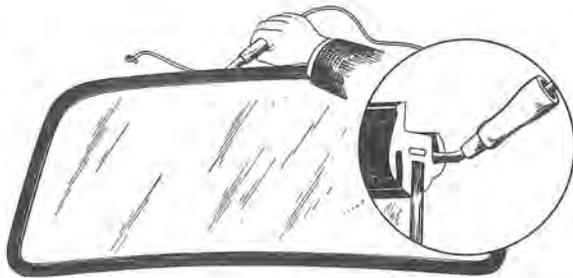

Fig. 8-26. Placing cord in rubber strip
2. Fit a cord (preferably of terylene) of a suitable size in the groove of the rubber strip for the sheet metal edge, beginning at the top center as shown in Fig. 8-26.